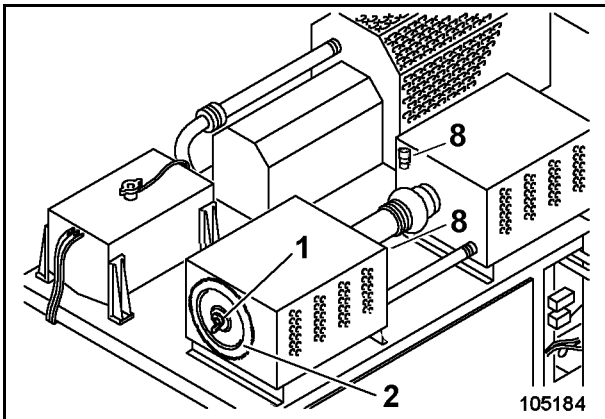

Fig. 3-23:
The air-intake system is equipped with two dry-air filter (Fig. 3-23:) consisting of main and safety filter element.
An insufficient air-intake performance, caused by a contaminated main filter element, is indicated by the vacuum-meter (8, Fig. 3-23:).
- Unscrew nut (1, Fig. 3-23:) and remove cover (2).
- Clean or renew main filter element only if the vacuummeter (8, Fig. 3-23:) indication changes to "RED" with the engine running at high speed.